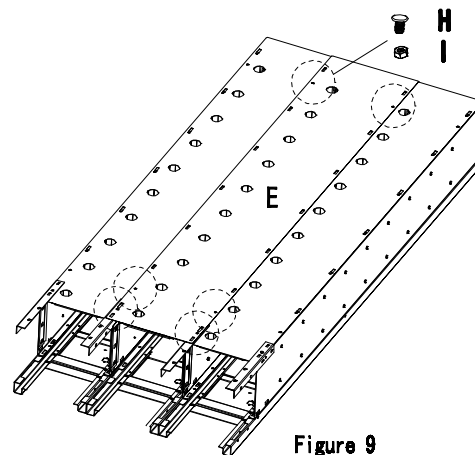

Figure 9
Assembly for the middle of the back panel (E) of the 3 Wide Cell Phone Locker (Figure 9): Ensure that tabs are aligned properly into the openings of the frame. Gently use a rubber mallet to lightly tap the tabs until they are fully seated. Locate the 6 round holes (two on the top and four on the bottom). Use screws (H) and nuts (I) to fasten the back panel.